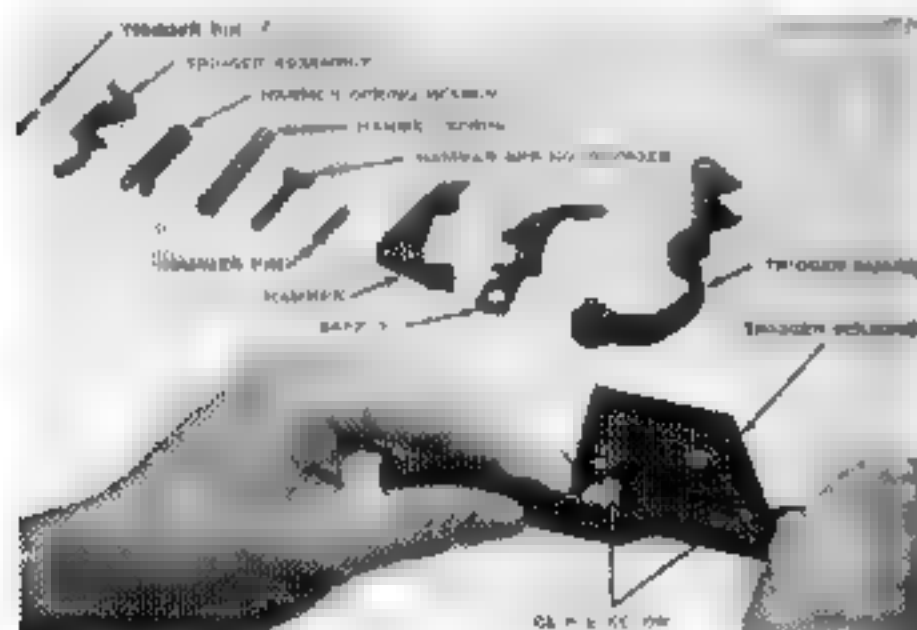

Fig. 77. Removing the clip ejector, other parts shown in order of disassembly.
(6) Hold the trigger housing in your left hand as shown in Fig. 77, resting on a solid surface. Using the tip of a cartridge, apply pressure on the clip ejector through its dismount hole and unseat it from its stud.
(7) The trigger housing group is assembled in reverse order of disassembly, as follows: